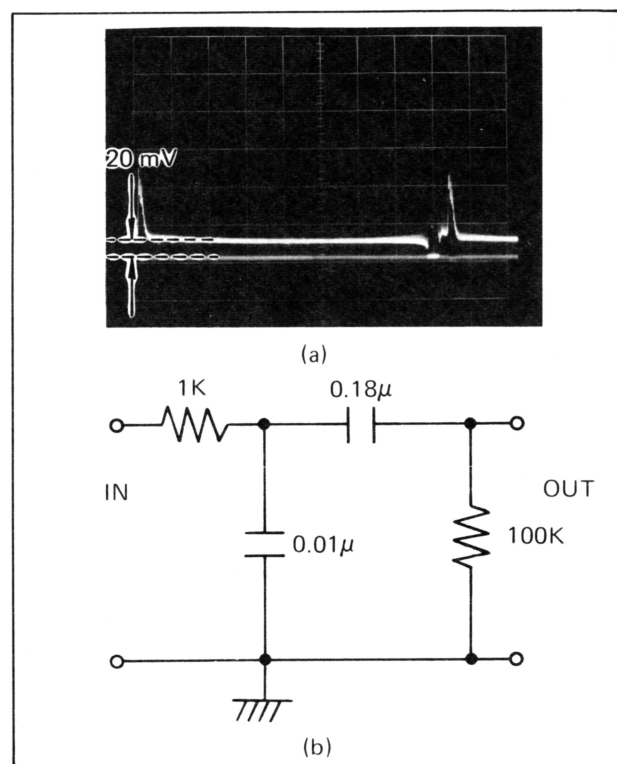

Fig. 4-4
*The waveform is more easily observed by measuring through a lowpass filter, as shown in Fig. 4-4.